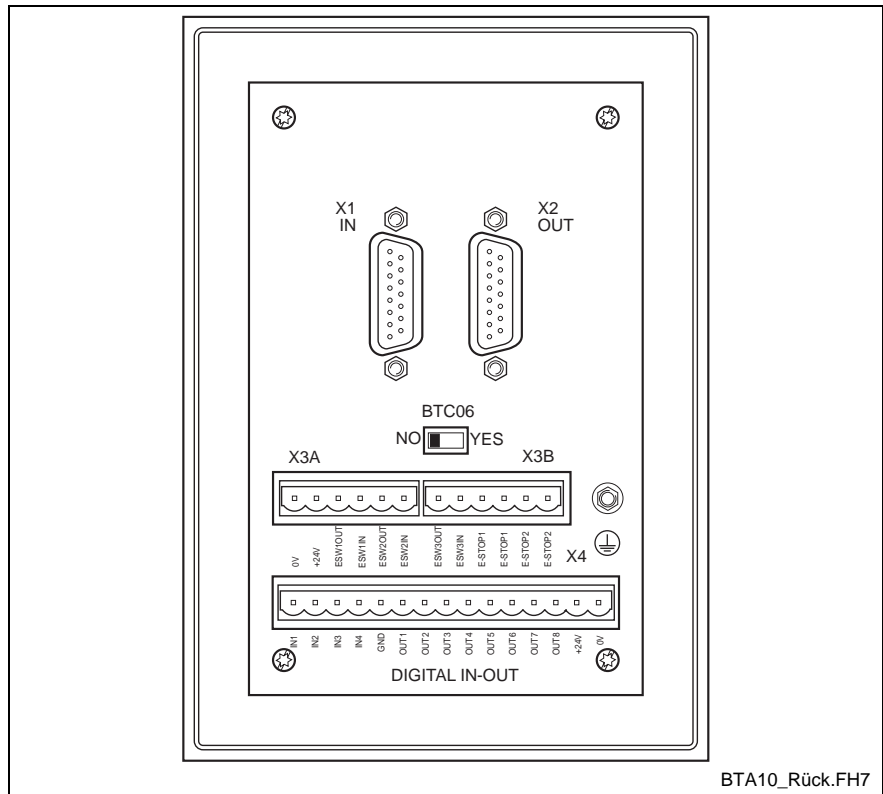

Figure 4-1: Rear view of BTA10 unit
- Figure 4-1: Rear view of BTA10 unit 4-1